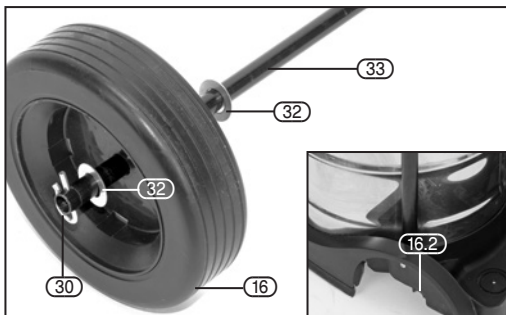

FIG. 3
- To secure on each side, tighten the supplied screw through the hole situated inside the rear wheel housing (16.1) and on through into the hole in the tubular frame of the handle (13).
- FIG. 3
- Using one end of the wheel axle (33), pass one of the 2 wheel locking pins (30) through the hole at the end of the axle. Assemble making sure that it is the correct way around as shown.
- Pass the opposite end of the axle (33) through the open end of the moulded bracket situated inside the wheel housing (16.2), and out through to the other side of the machine.
- Repeat assembly on the opposite side. Snap-fit the 2 wheel hub caps (31) in place to complete the rear wheel assembly.